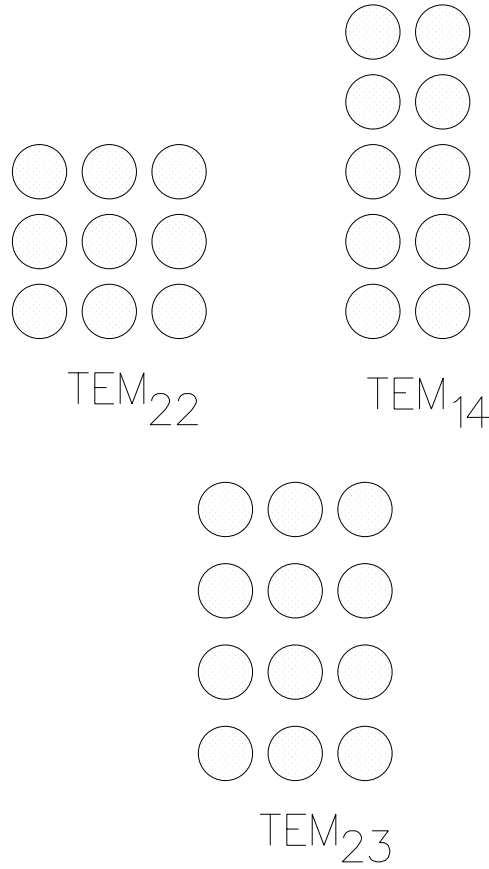

Figure 2: Rectangular mode patterns for Problem 5.2a.
a. For rectangular geometry, we have one more in the x-direction and y-direction than the index value. See Fig. 2.